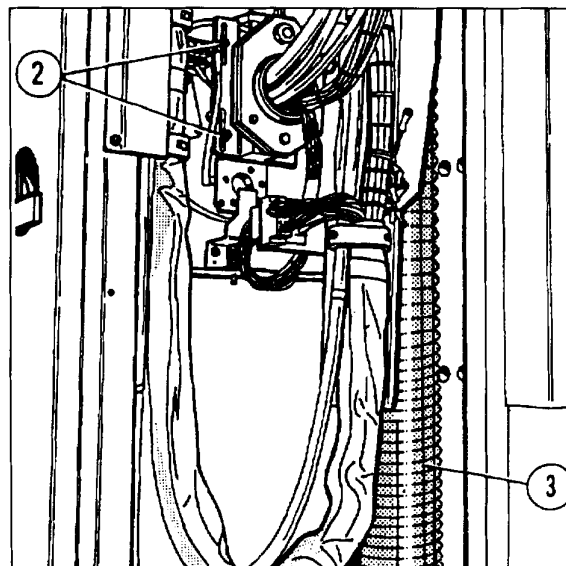

Fig. 6
- If Speed Info 34-94 has not been completed yet, secure the four screws (2/Fig.6) of the counterbalance with Loctite as follows: